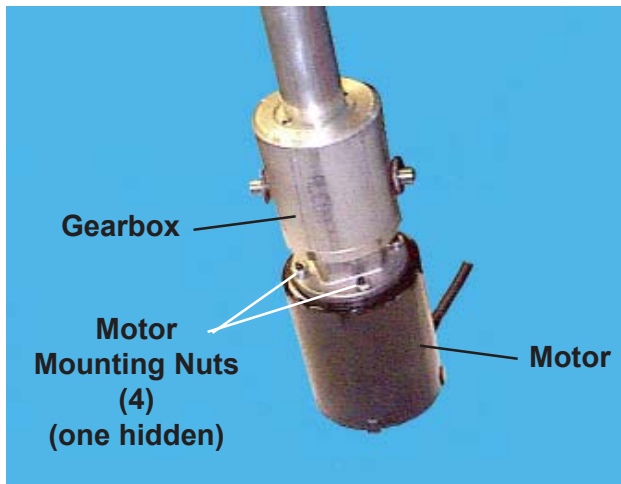

Figure 42. Actuator Motor
2. With a 3/8-in. wrench, remove the four motor mounting nuts/lockwashers (Figure 42).